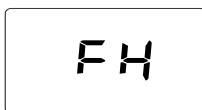

fig. 6- Vent with fan on
- For the following 20 seconds the display will show **FH** which identifies the heating system air venting cycle with the fan running (fig. 6).